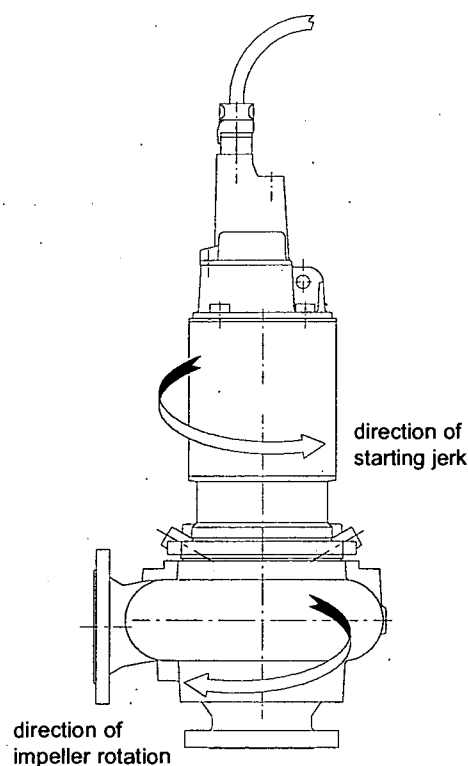

Fig. 6
- The **direction of rotation** is **correct** (Section 2.2.4, Fig. 6).
Before lowering the pump into the sump, make electrical connections as indicated in Section 2.4.2 and check the direction of rotation. This must be counter-clockwise viewed from suction end. Check impeller rotation by suspending pump from the lifting eyes, resting inclined on the floor, and start up for one second. The starting jerk should be counter-clockwise viewed from driving side (Fig. 6).